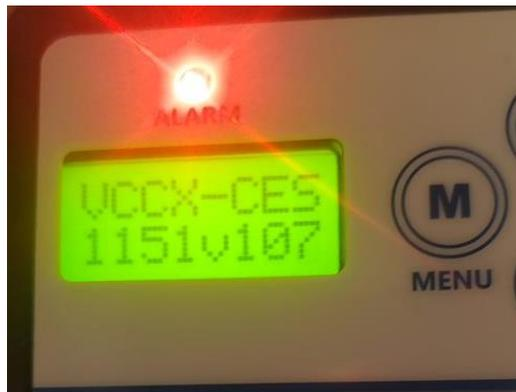

Figure 37: Confirming Hex Update On VCCX Display
- To verify that the Hex update took, look at the VCCX controller display to confirm Hex file numbers (see figure 37).